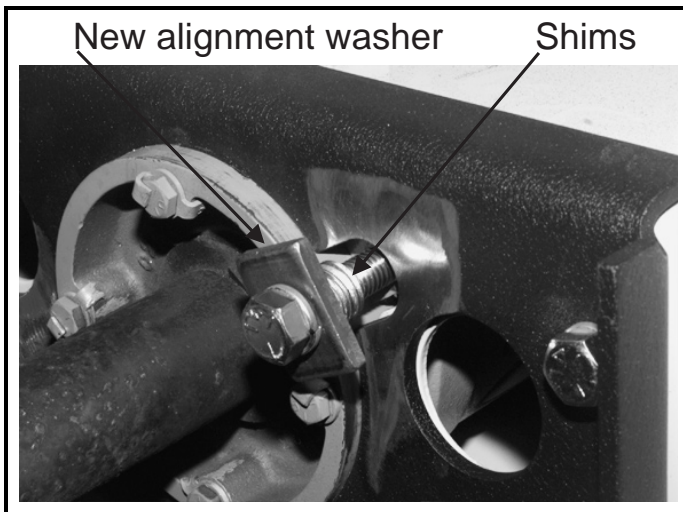

FIGURE 6 (MSSM0708BE)
6. Pre-position the two bearing support tap strips, then install the rear reinforcing plate. Install new alignment washers and original shims on rear mounting bolts (FIGURE 6). **Replace the shims on rear mounting bolts exactly as removed.**